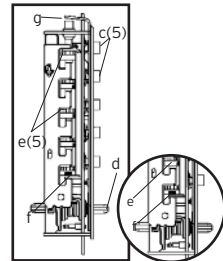

Figure 5-3
**E-4** Look at the 5 code gears (e). If any code gear pockets (f) are already at the shear line (open position), ignore them. They are not used in the combination (See Figure 5-3).
**E-5** Find the code gear pocket/s (e) that is farthest away from the shear line (open position). Depress that key-stem/s (c) and release (See Figure 5-3). If any digits in the combination were depressed together (at the same time), then they must also be depressed together to reset the combination.
**E-6** Find the code gear pocket/s (e) that is the next farthest away from the shear line (open position). Depress that key-stem/s (c) and release (See Figure 5-3).
**E-13** Look at the code gear pockets (e). The digits in the new combination should not be at the shear line (open position) **(See Figure 5-3)**.